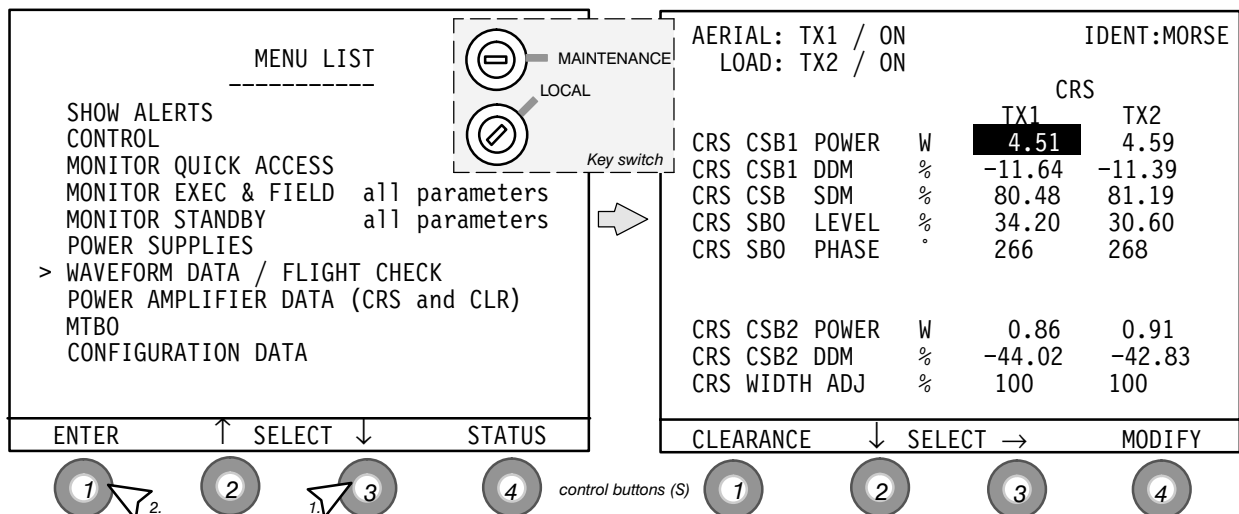

Fig. 3–20 FLIGHT CHECK select and Active Waveform Data CRS window, 1st step (example)
- S4 MODIFY to select the parameter to be adjusted (see Fig. 3–21)